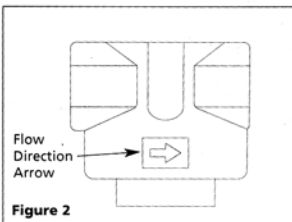

Figure 2
1. Locate the air flow direction arrow (See Figure 2, detail). This arrow shows the direction of the air flow, i.e., it points to the outlet.
3. Verify the arrow points to the outlet. (See Figure 2.)